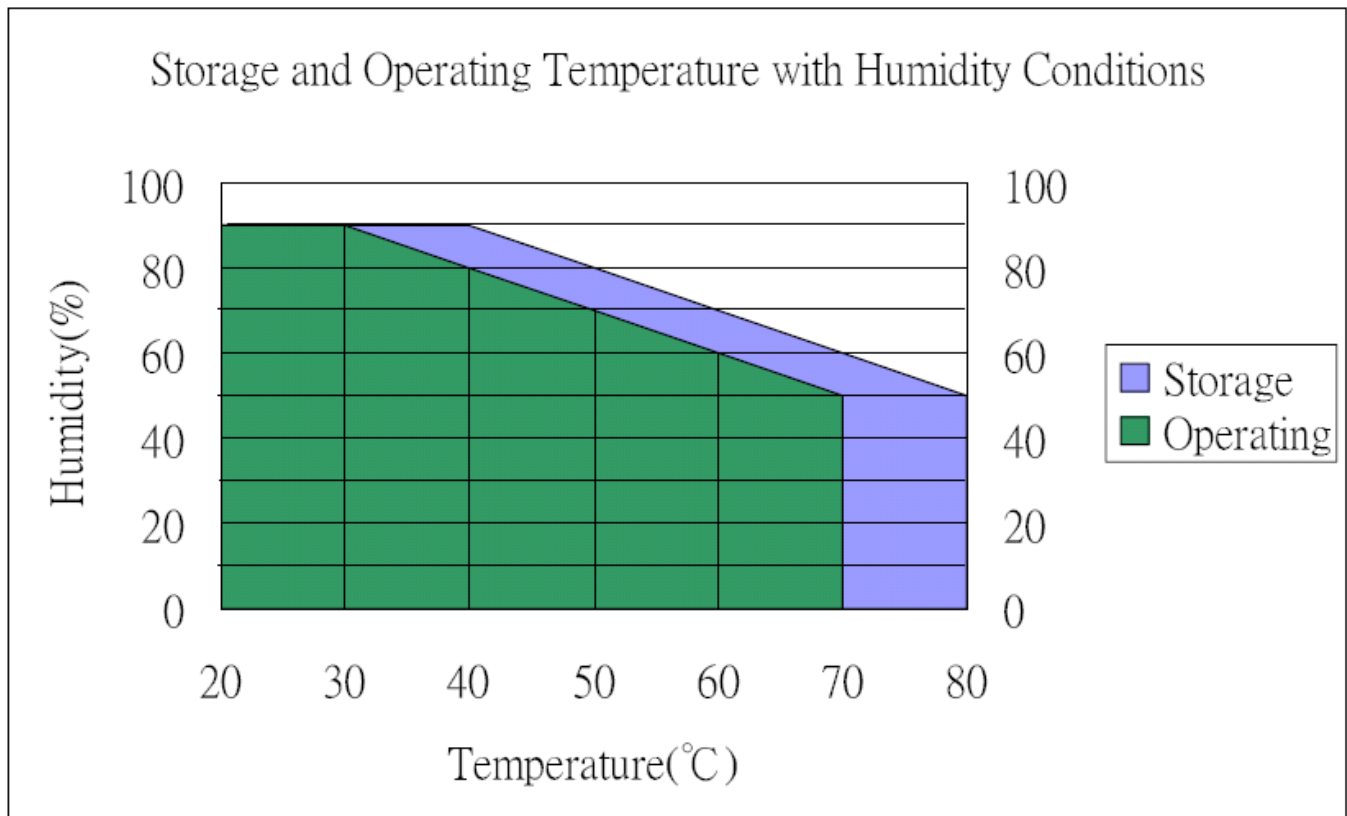

Fig.5 Storage and Operating Temperature with Humidity Conditions
5.3 Humidity: if temp. $\geq 20^{\circ}\text{C}$, see Fig.5 below